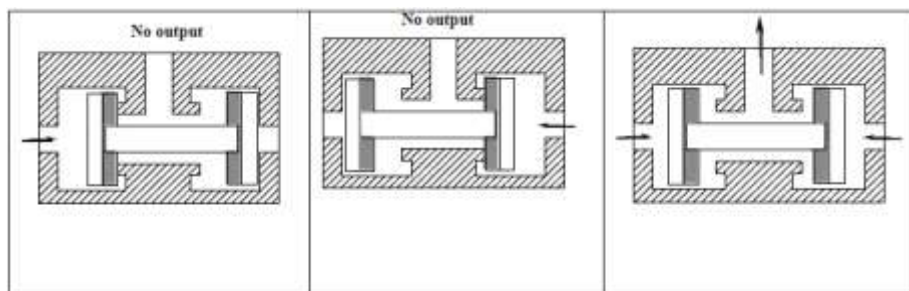

Fig.5.20 Two pressure valve
- ▶ This valve is the pneumatic AND valve. It is also derivative of Non Return Valve. A two pressure valve requires two pressurised inputs to allow an output from itself. The cross sectional views of two pressure valve in two positions are given in Fig.5.20.
- ▶ As shown in the Fig.5.20, this valve has two inputs 12 and 14 and one output 2. If the compressed air is applied to either 12 or input 14, the spool moves to block the flow, and no signal appears at output 2. If signals are applied to both the inputs 12 and 14, the compressed air flows through the valve, and the signal appears at output 2.